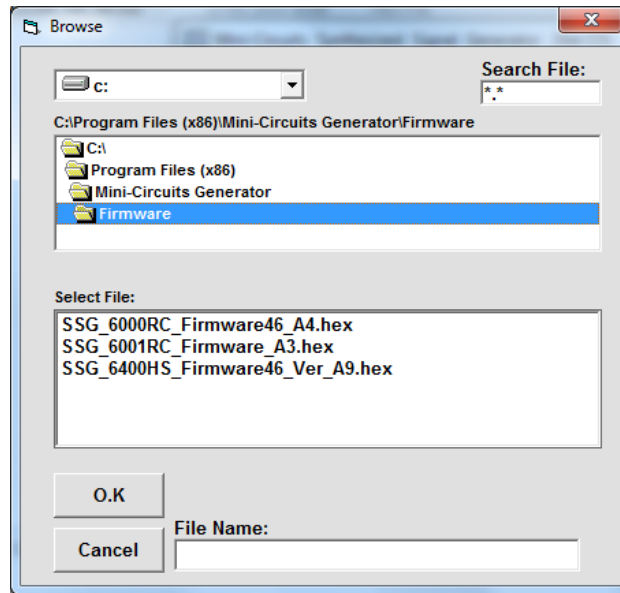

Figure 3.9.10 Firmware – Browse window
3.9.10 **For SSG-6xxxRC models , a browse window will open with the default firmware directory** (see Fig 3.9.10). Navigate to the directory where you saved the firmware file, and select the file (note the file name matches the model P/N) and click O.K. For firmware upgrade of SSG-15G-RC see section 3.9.5.